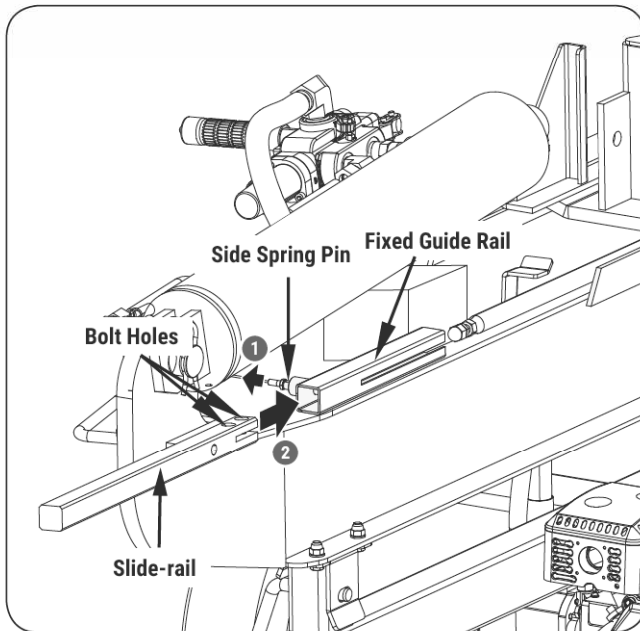

Figure 6a
1. Pull out the side spring pin and insert the slide-rail through the fixed guide rail until the two bolt holes on the slide-rail are fully exposed. (See **Figure 6a.**)